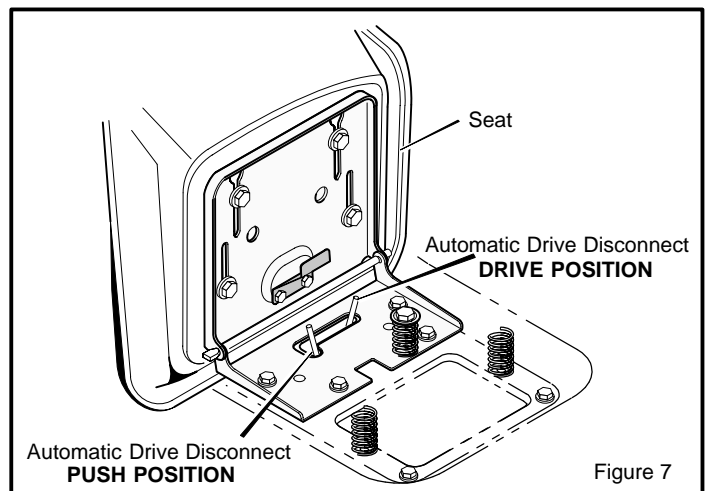

Figure 7
1. The **automatic drive disconnect** must be in the DRIVE position (Figure 7).
3. Move and latch the **automatic drive disconnect** in the PUSH position (Figure 7). The transmission is now *released* and the unit can be pushed.